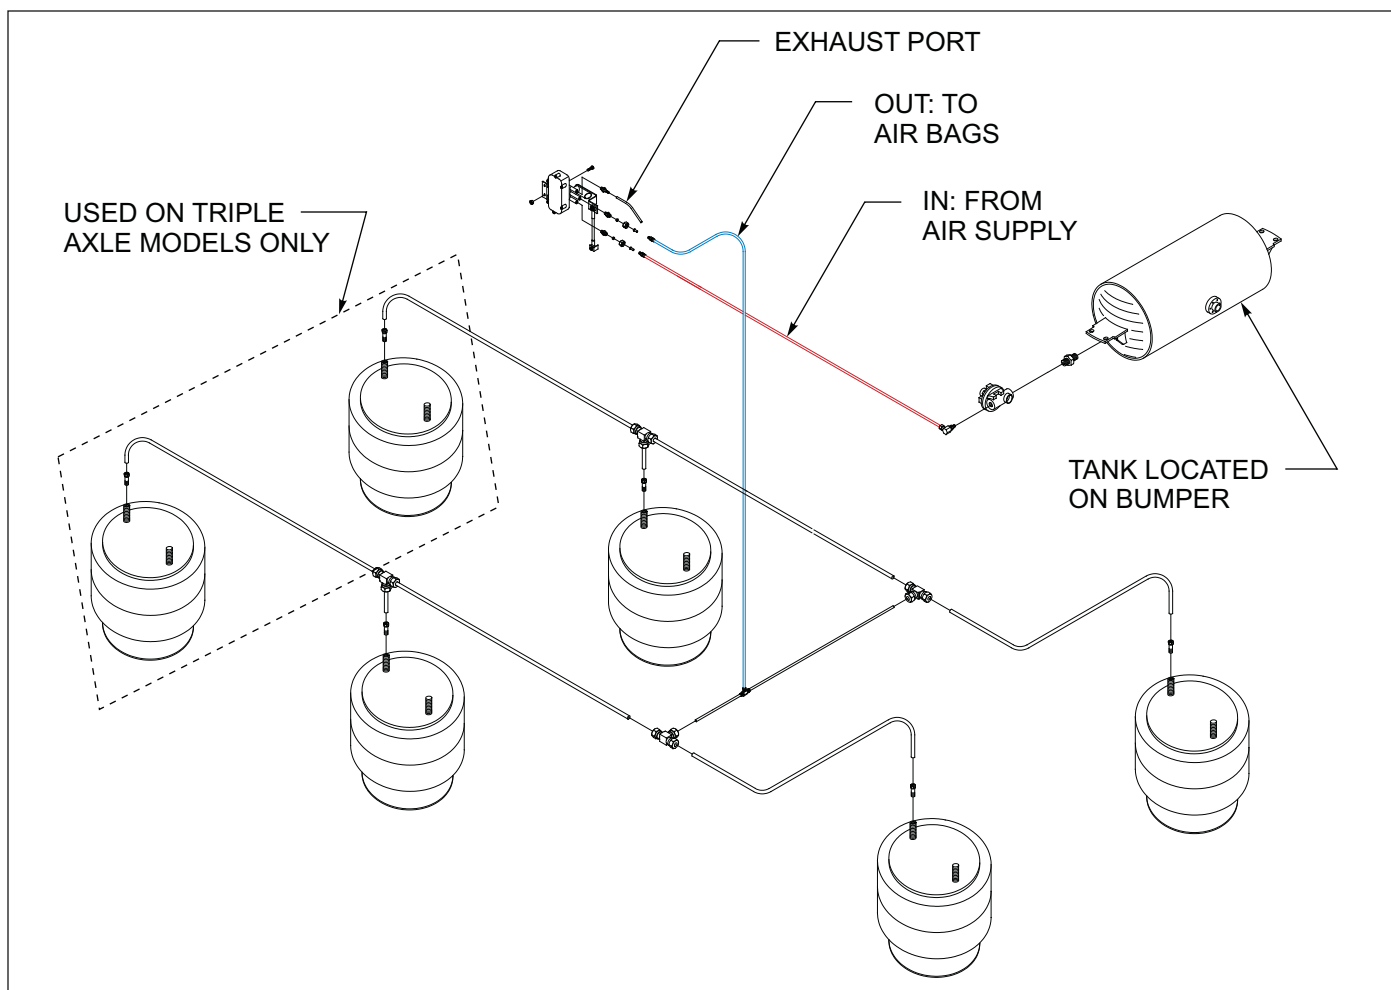

Figure 4-6: Tandem/Triple Air Ride Suspension System
1. See Figure See Figure 4-6 for Axle Air Ride Suspension drawings.
2. Disconnect linkage at the control arm and raise control arm to the "up" position, raising the trailer until a block can be placed between axle tube and undercarriage frame (See Figure 4-6.)
6. Loosen the 1/4" adjusting lock nut located on the adjusting block, allowing the control arm to move approximately 1 inch. Move the adjusting block until holes align, then insert locating pin. (See Figure 4-6.)